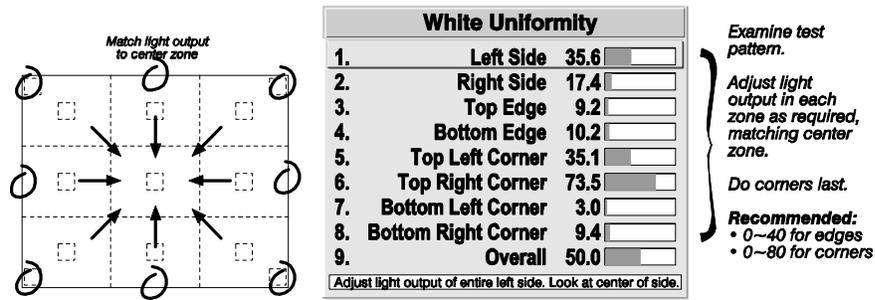

FIGURE 4-24 MATCH ZONES TO CENTER LIGHT OUTPUT
- c. For each screen, compare the light output of each *edge* and *corner* to that of the *center*. If any of the areas differ, use the *White Uniformity* menu to match edges and corners to the center as described below, see Figure 4-24 Match Zones to Center Light Output. Begin with the screen exhibiting the most obvious variations in light output.